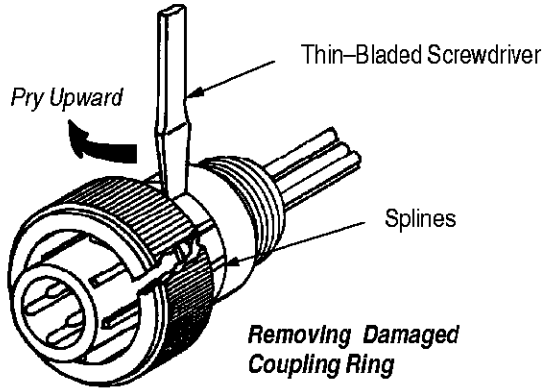

Figure 14
12.1. Removing Coupling Ring (Figure 14)